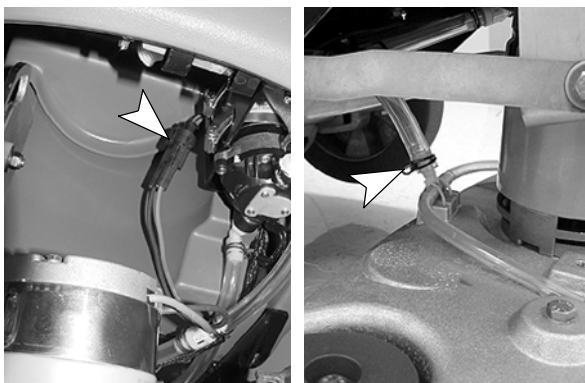

FIG. 66
2. Unplug the brush motor wire connector and disconnect the solution feed hose (Figure 66).